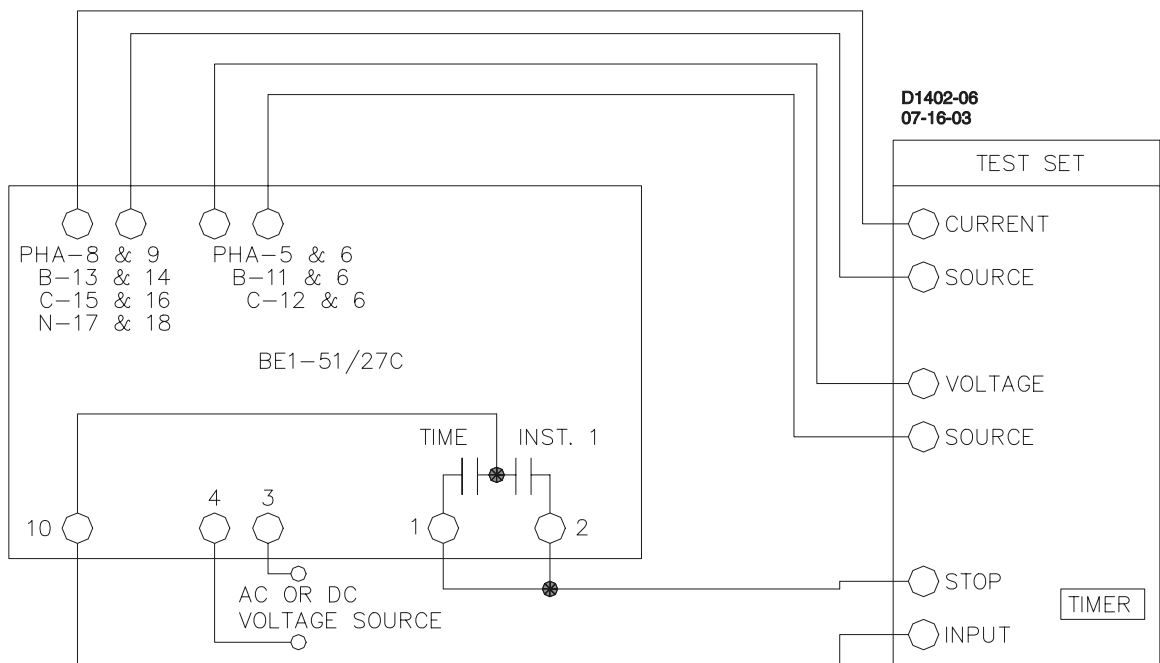

Figure 5-3. Setup for Sensing Input Type T (Three-Phase with Neutral Sensing)
- (c) Sensing Input Type T (Three-Phase with Neutral Sensing). Refer to Figure 5-3. Ensure that the timed Output Terminals 1 and 10 are connected. Also, verify that either A, B or C Current Sense Terminals are connected initially (N terminals will be connected later in the test).
- (d) Sensing Input Types D or U (Three-Phase with Neutral Sensing). Remove the power and reconnect the input sensing each of the remaining phases as shown in Figures 5-3 and 5-5, each time repeating Steps 1 through 10. For neutral testing continue with Step 12.
For the neutral sensing (Terminals 17 and 18), connect the relay as shown in Figures 5-3 and 5-5, then perform the following steps (Steps 13 through 21).
Step 11. Remove the power and reconnect the test output to the neutral current sensing input of the relay as shown in Figures 5-3 and 5-5 (Terminals 17 and 18).
- (1) The front panel **TIMING (NEUTRAL)** indicator extinguishes.